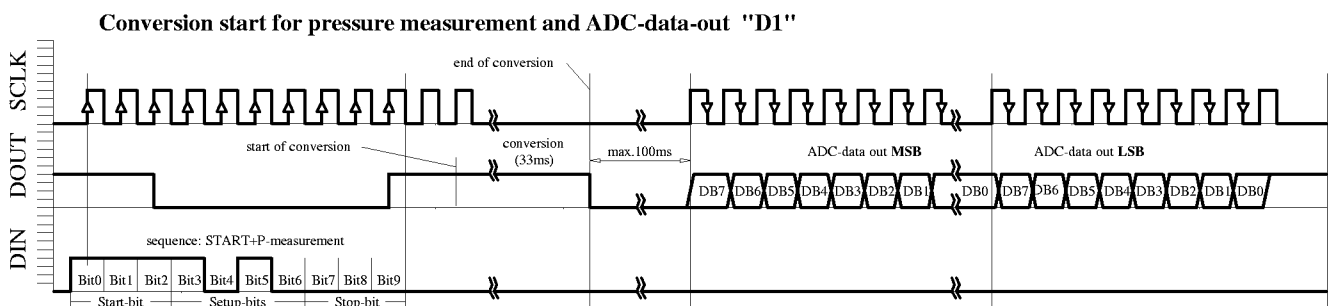

Figure1a
- Conversion start for pressure measurement and ADC-data-out "D1" (Figure1a)